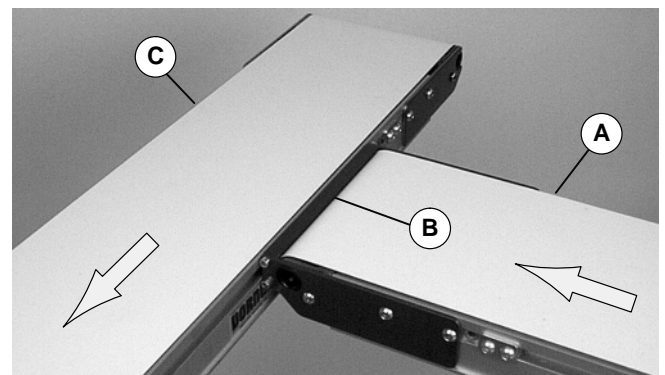

Figure 2
2. Identify infeed conveyor (A of Figure 2) and outfeed conveyor (C). Install pulley transfer plate (B) on discharge end of infeed conveyor (A). See instructions in your Pulley Transfer Plates Set-up, Operation & Maintenance Manual.